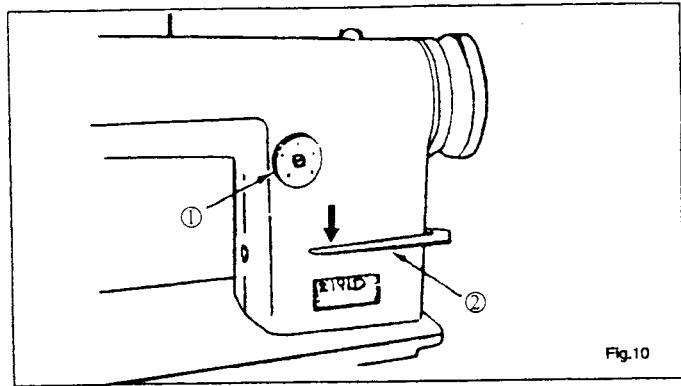

Fig.10
8. To adjust stitch length (Fig. 10)